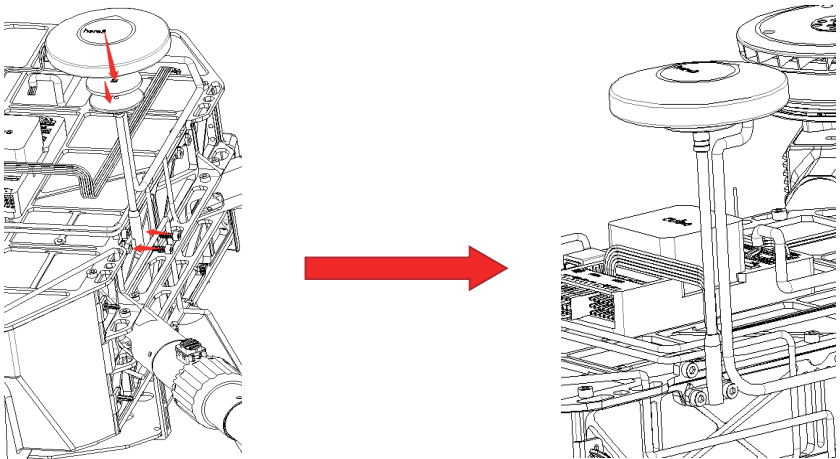

Figure 10 (GPS Installation)
- Use the 3M tape to fix GPS up to GPS holder, and fix to body (figure 10)